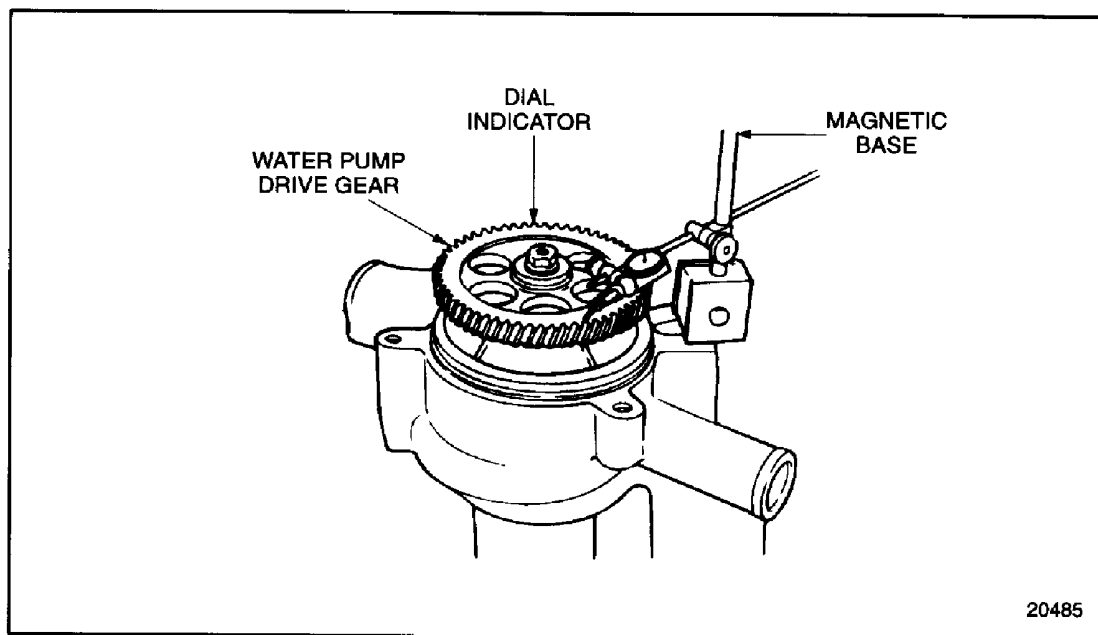

Figure 27-1 Measuring Water Pump Drive Gear Run-Out
2. Turn the water pump over and install J 35687, water pump impeller slip and lash tester, into the tapped holes provided in the impeller; see Figure 27-1.